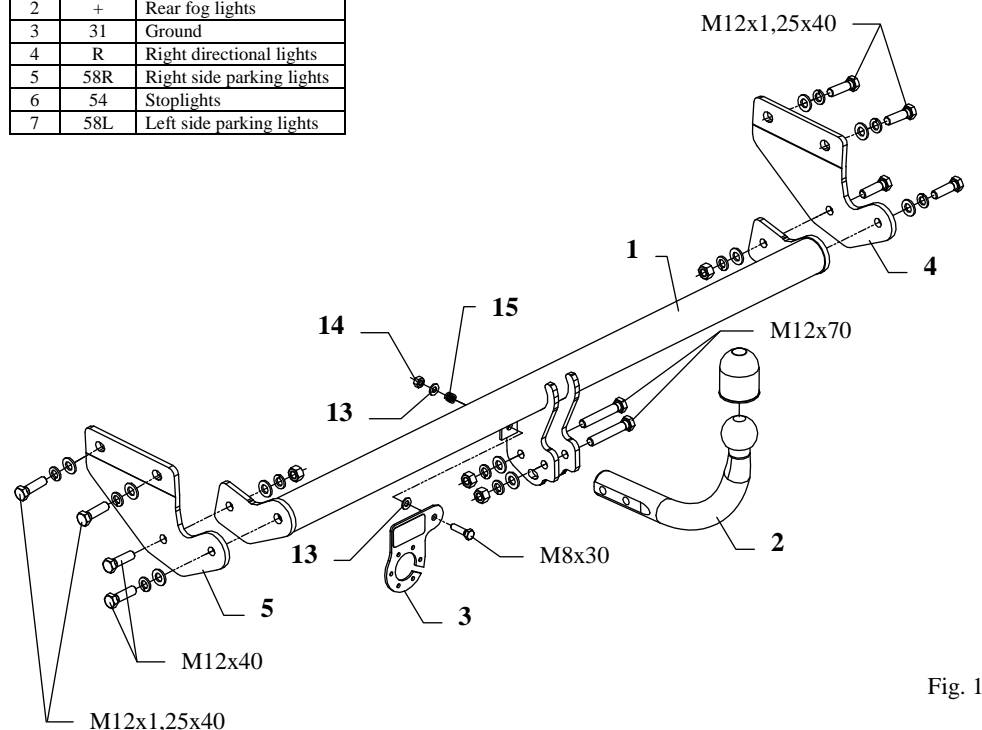
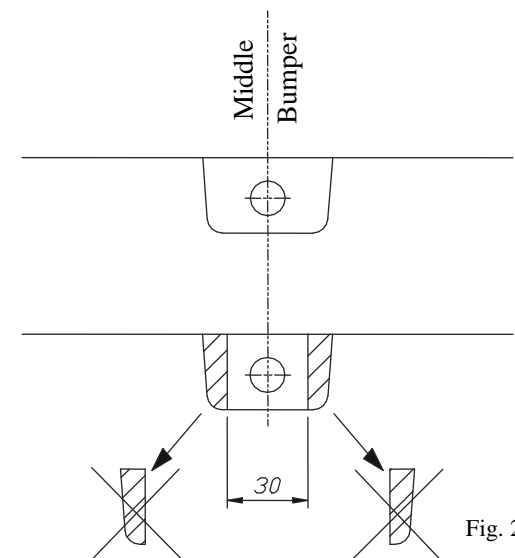

Fig. 1
Fig. 2
- For the purpose of installing of the towbar it is not necessary to disassemble the bumper. However one ought to unscrew all bolts holding the bumper from the bottom and make in the bumper small cut outs (as shown on the fig. 2).
- By the internal side of the chassis members are factory-made holes with thread M12x1,25mm. One ought to fix to them side brackets of the towbar (pos. 4 and 5) using bolts M12x1,25x40mm (pos. 7) – loosely.
- Slip the main bar of the towbar (pos. 1) between side brackets (pos. 4 and 5) and fix using bolts M12x40mm (pos. 8).
- Fix tow-ball (pos. 2) using bolts M12x70mm (pos. 6) from accessories.
- Fix the socket plate (pos. 3) as shown on the fig. 1.